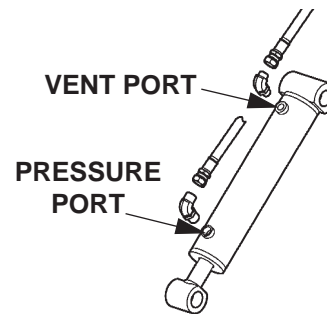

FIG. 76-1
5. Check the Hydraulic Cylinder. With the Platform on the ground, remove the Breather Plug or Vent Line from the Vent Port of the Cylinder (**FIG. 76-1**). Raise the Platform even with the bed. Allow pump motor to run two seconds more while you watch for hydraulic fluid at the Vent Port. A few drops of hydraulic fluid escaping the Vent Port is normal; however, if it streams from the Vent Port, Piston Seals are worn. Replace Seals.